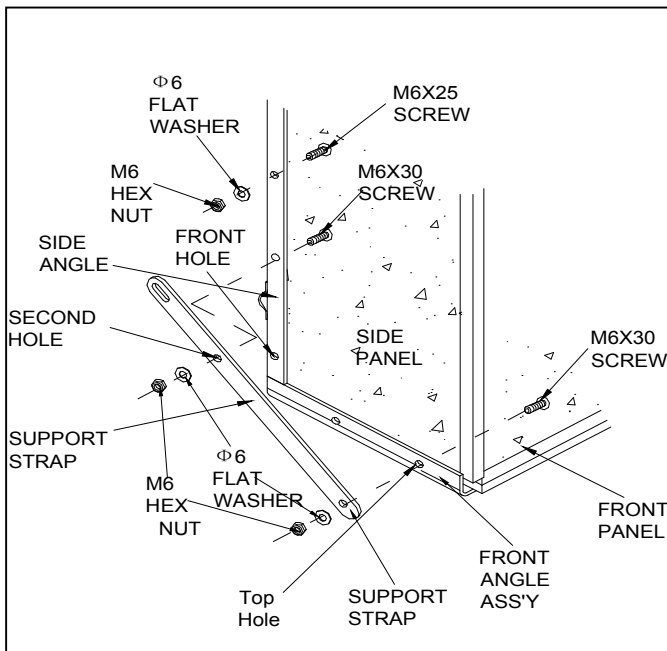

**FIGURE 6**
8. Lay the front panel down onto the front angle assembly, on top of the four large washers. See figure 6.